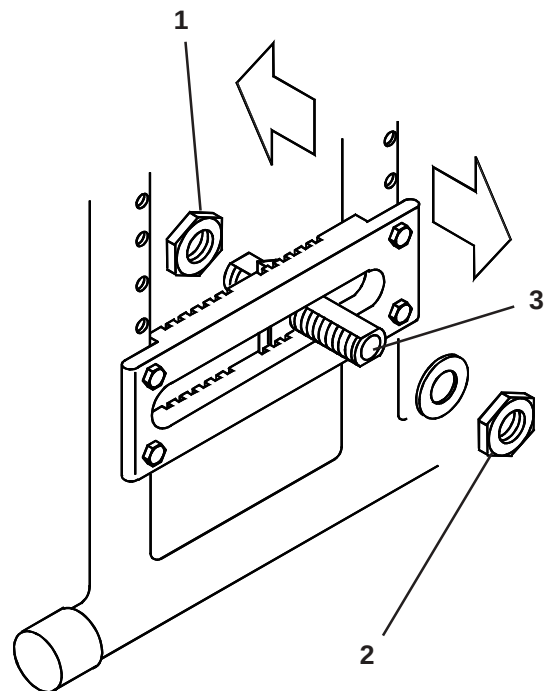

Fig. 41
The wheelbase width is adjusted by loosening the inner (1) and outer 28mm A/F axle sleeve nuts (2), using adjustable spanners, and positioning the axle sleeve (3) where required. The nuts must be tightened using a torque spanner to 45Nm torque (Fig. 41).